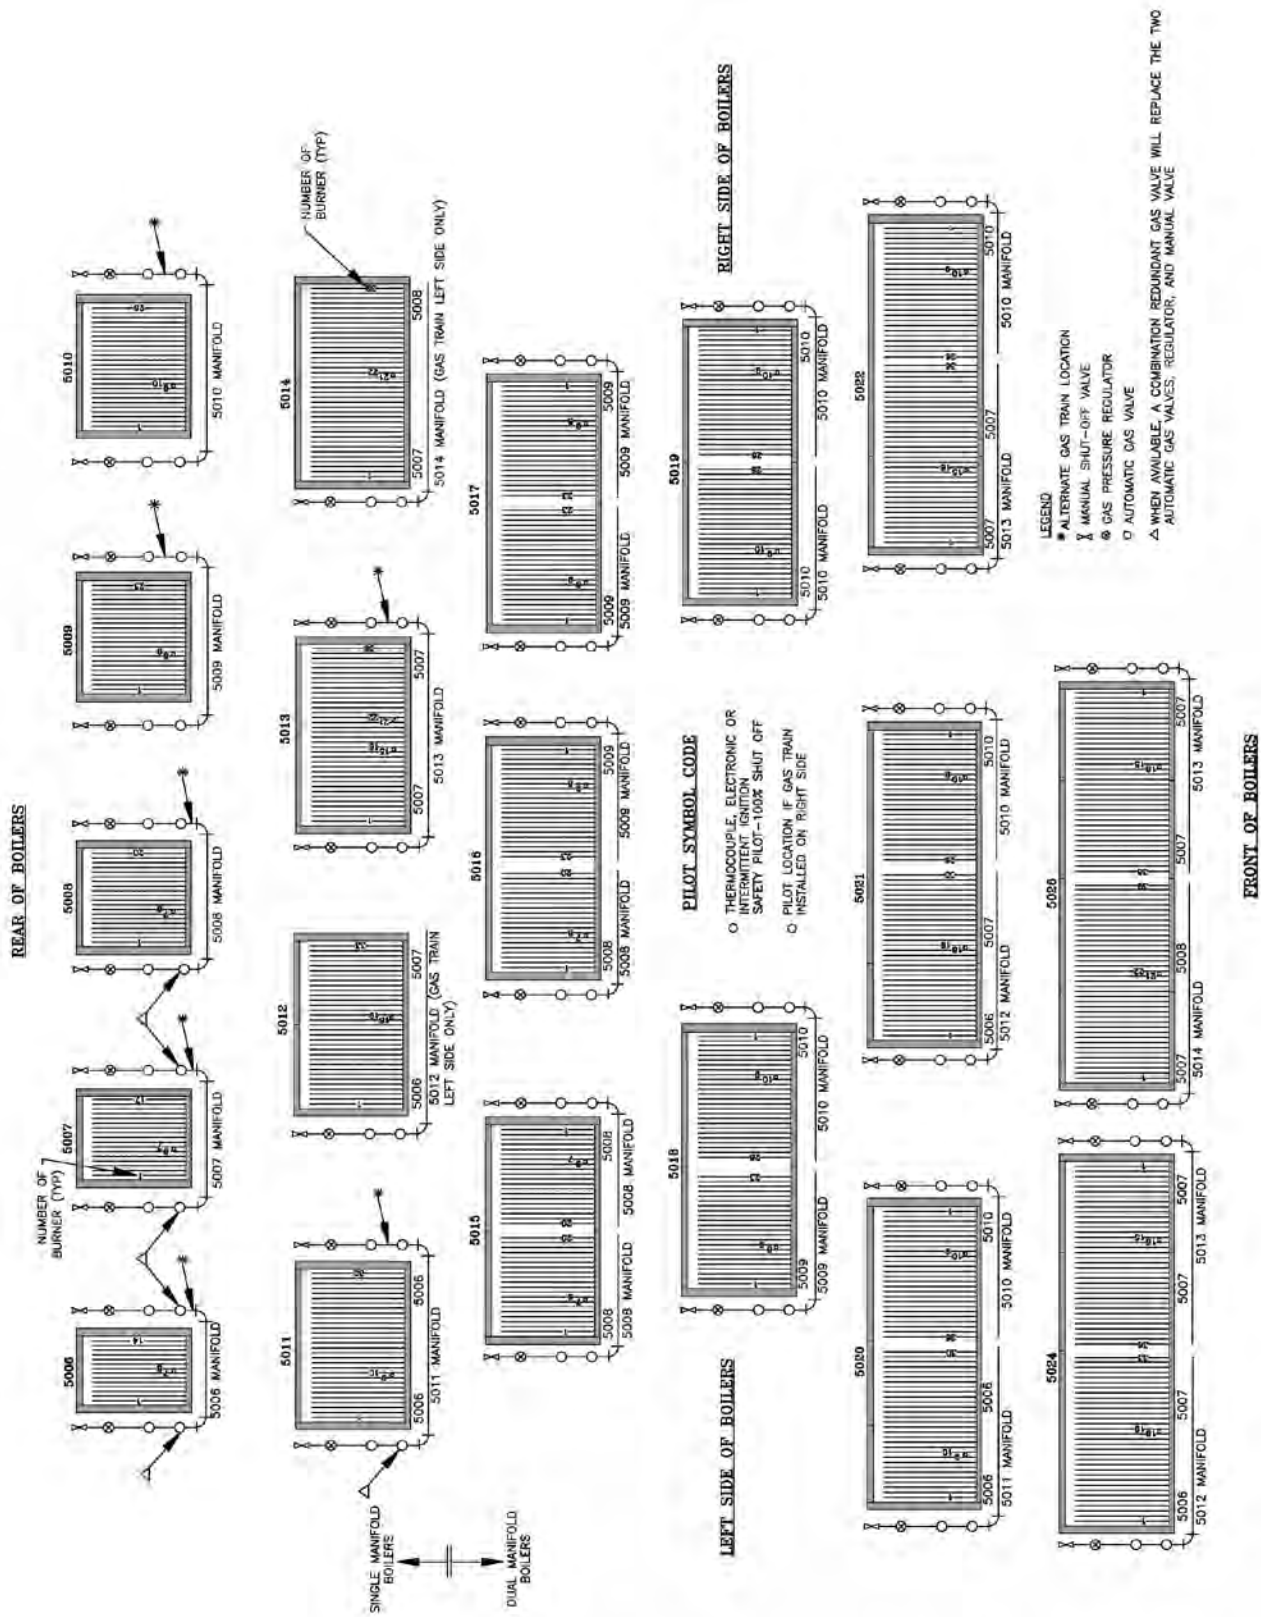

FIG. 62
- e. When replacing burners, reverse procedure used in removal of burners. Make sure burners are secure in keyhole slots in base rear panel and hitch pin clips are installed in grooves in all main burner orifices. Burners with pilots must be in same locations as original installation. If markings placed on manifold (when burners were removed) are obliterated, see Fig. 62. Reconnect electrical leads and reconnect pilot tubing.